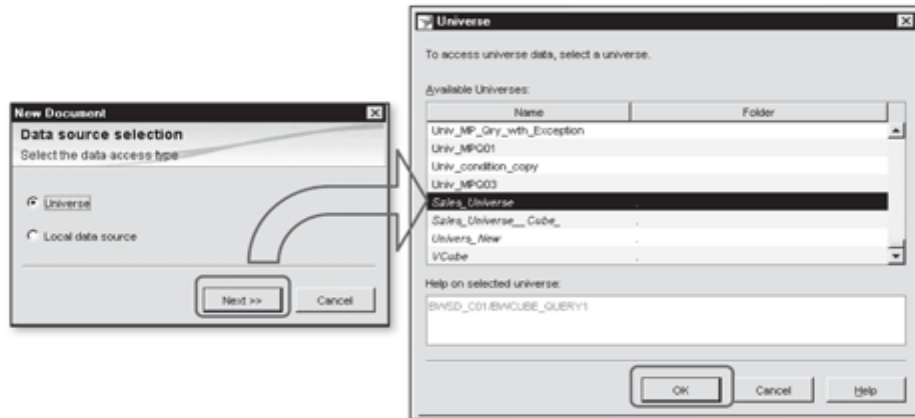

Figure 13.20 Select a Universe
3. The next screen asks if the Web Intelligence document has to be based on a universe or on a local DataSource. Select Universe, and click NEXT. The following screen displays a list of all of the universes available to you. Select the universe (based on the BEx query), and click on OK (Figure 13.20).